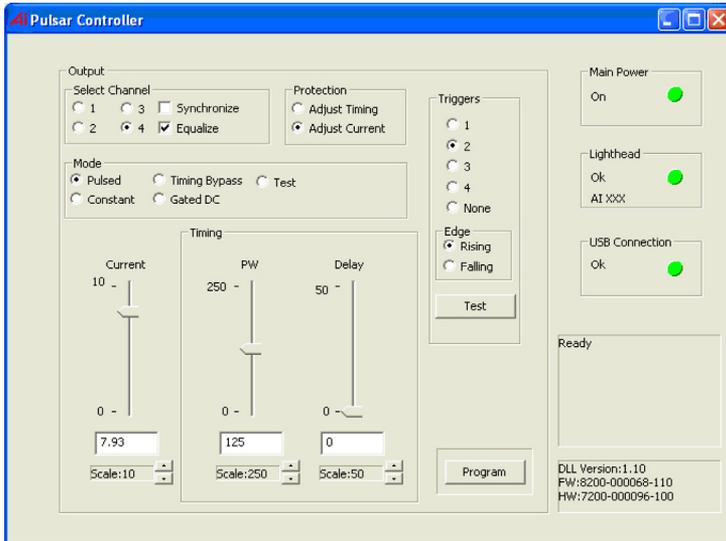

Figure 9: Pulsar 710 controller utility dialog box
4.4.2.2 Launch Pulsar 710 Controller Utility: To run the program; go to Start -> Programs -> Advanced Illumination -> Pulsar Controller. Upon execution of the Pulsar Controller Utility program, the dialog box shown in figure 9 will appear.